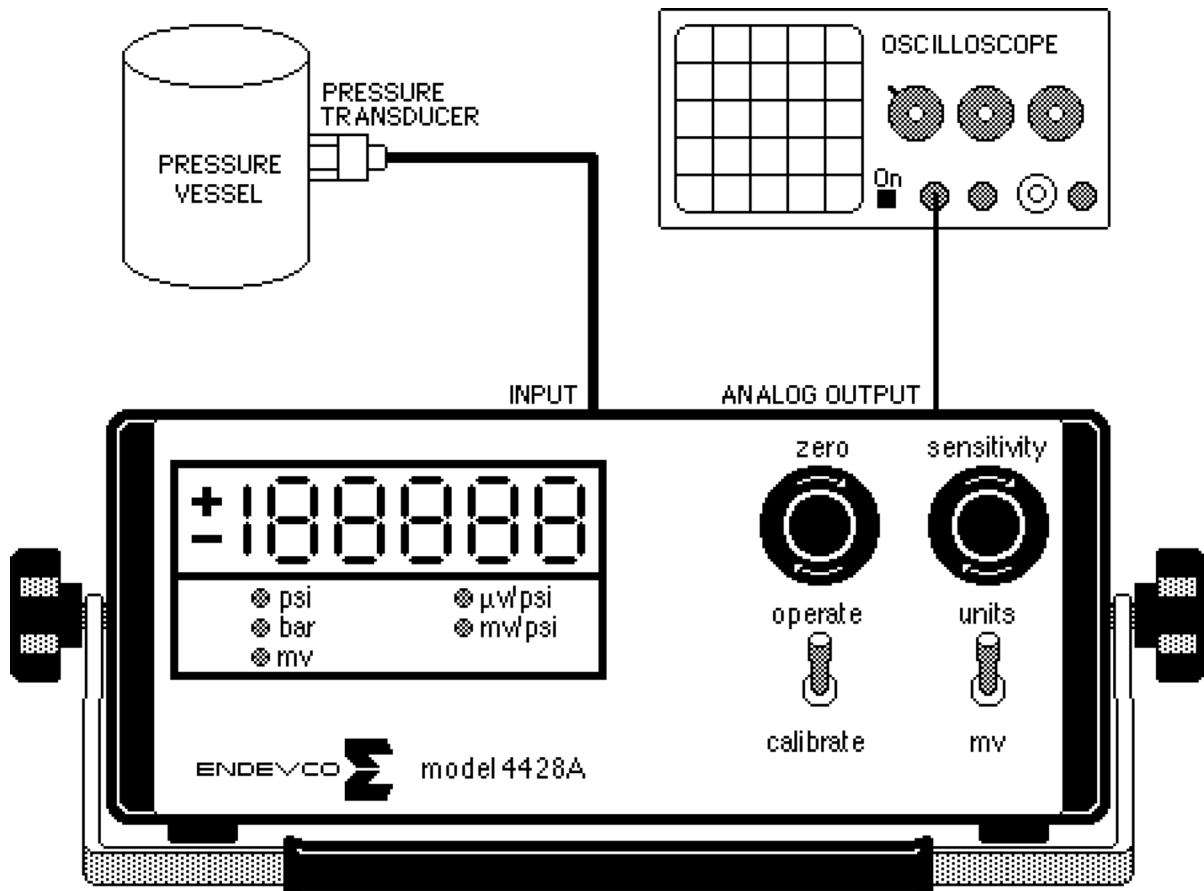

Figure 4-2. Typical Pressure Analysis Test Set Up
- 5) TP281 - Miniature Pressure Transducers for Use to 300°C. As a further aid in planning a functional test set up, Figure 4-2 shows a typical stress analysis test bed set up using Model 8500 series Endevco Pressure Transducers and the Model 4428A. In this figure, actual transducer numbers are used, the full scale range numbers and input sensitivity are identified, and the Model 4428A switch setting is noted.